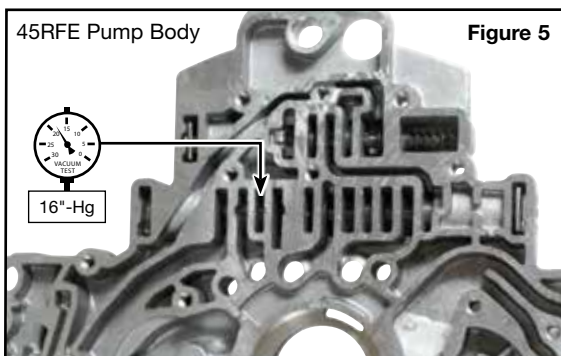

Figure 5
- Vacuum test the TC limit valve in the recommended testing ports. Vacuum should hold a minimum of 16 in-Hg (**Figure 5**).